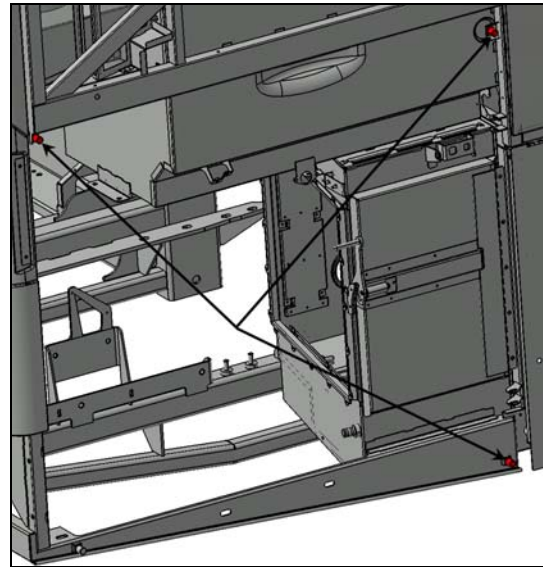
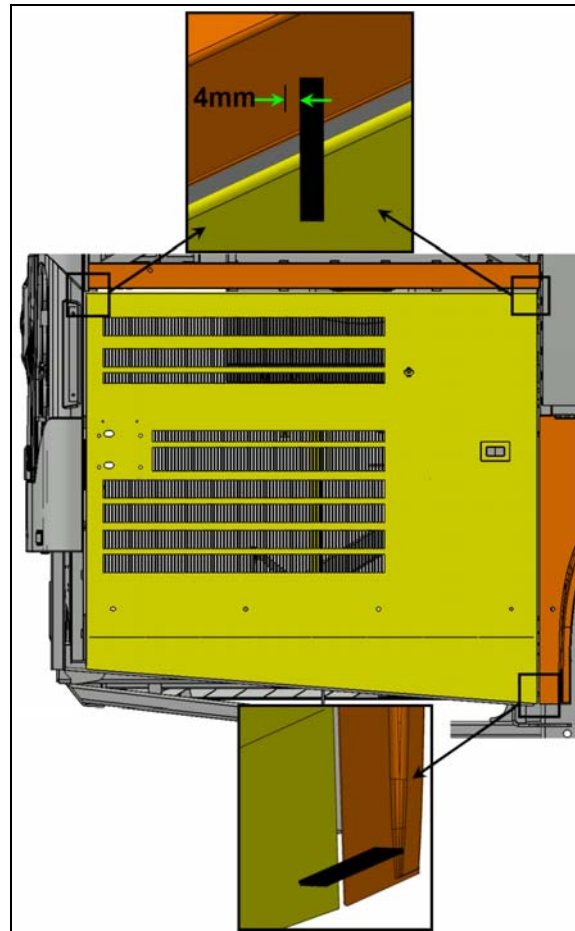

FIGURE 62
FIGURE 63
19. Screw in or out the two upper stoppers so that the upper part of the door exceeds the horizontal member by 5/32" to 3/16" (4mm to 5mm) (see FIGURE 62 & FIGURE 63).